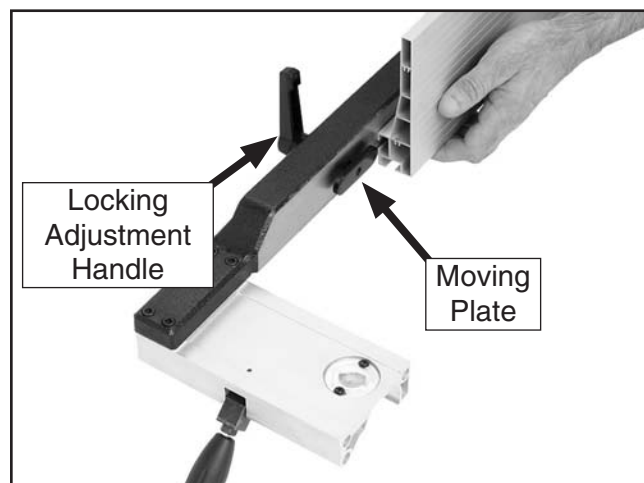

Figure 18. Attaching resaw fence to standard fence.
22. Slide the resaw fence over the moving plate, as shown in **Figure 18**, so the moving plate fits inside the channel of the resaw fence.